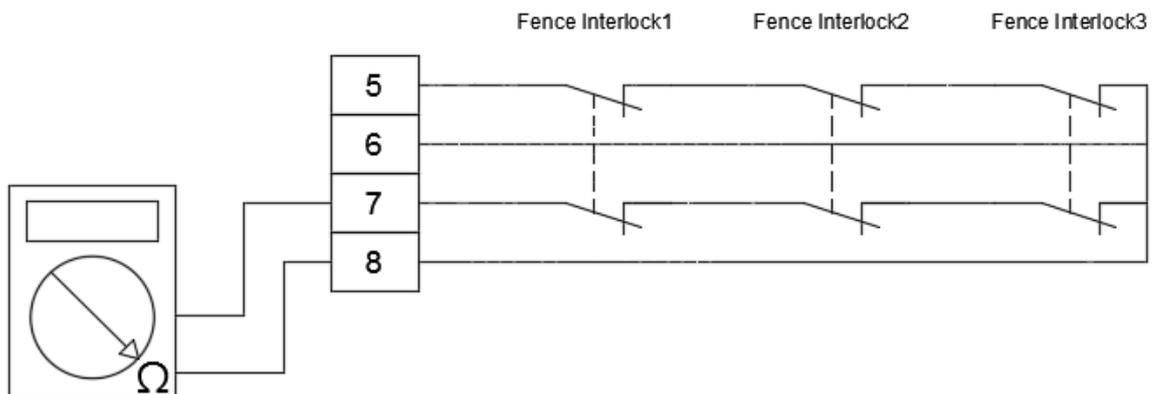

Figure 8.20 Turn off fence safety signal and measure Pin 7 and Pin 8
4. Measure Pin 7 and Pin 8 of the safety connector; the reading on the multimeter must be $< 0.5 \Omega$, as shown in Figure 8.20 below.